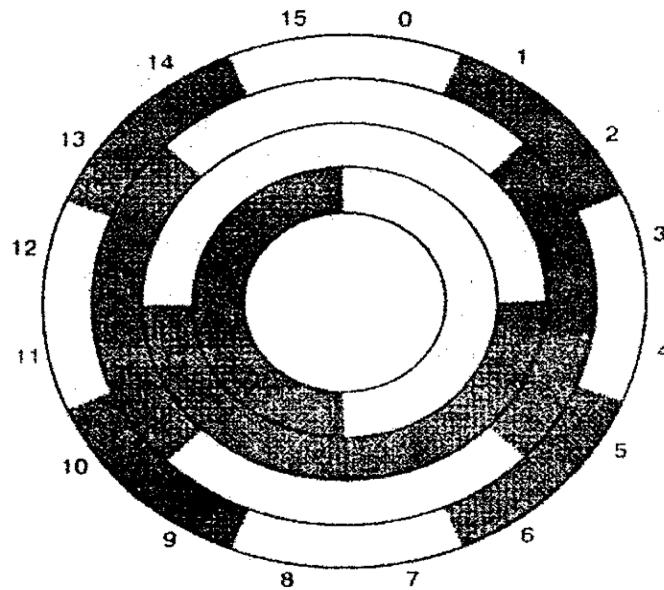

Figure 3.10 Disc coded with gray code
2) Using Gray cyclic coded pattern on the disc instead of natural binary pattern, see Figure 3.10.